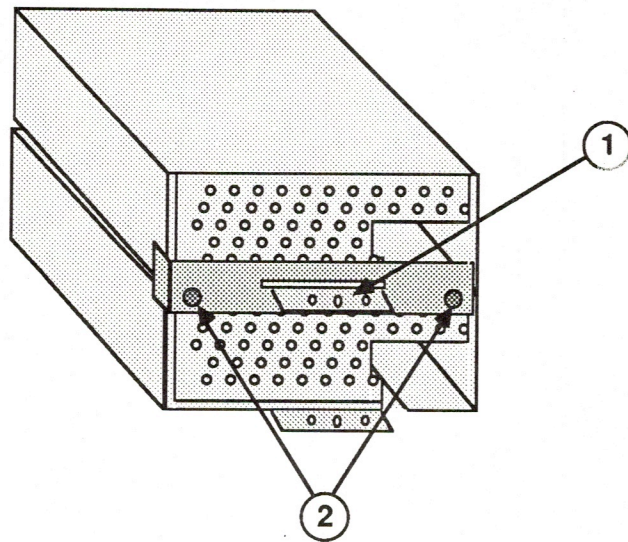

FIGURE 26
4. Place the metal bracket over the two drive housings so that the slot in the bracket (Figure 26, #1) fits over the tab on the upper housing.
5. Replace the two Phillips screws (Figure 26, #2) that secure the metal bracket to the lower 800K drive housing.